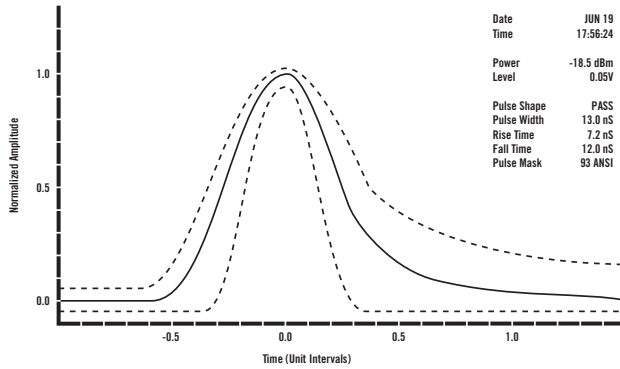
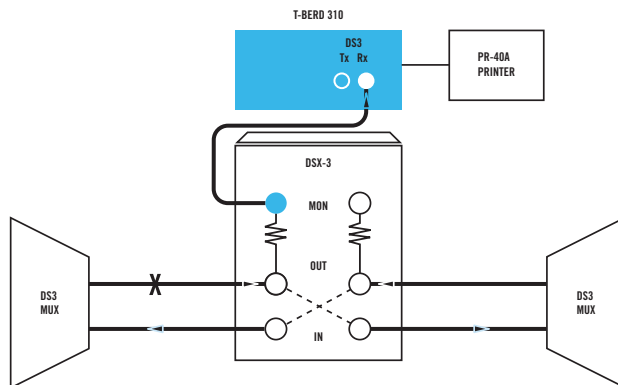

Figure 8 Pulse shape printout from a DSX monitor point showing no fault
Figure 10 Location of upstream (near-end) fault
3. Examine the printed pulse shape graph for faults. Verify the pulse shape graph is smooth as shown in figure 8. (A pulse graph from the DSX MONITOR point need not fit inside the mask.)
To isolate the direction of a connector fault, examine the signal power measurement in the pulse graph. Notice the power has dropped 5.2 dBm from the power measurement in figure 8. The fact that the signal at the DSX MONITOR point now has a lower power than a previous measurement indicates that the fault occurs upstream (near-end) as shown in figure 10.